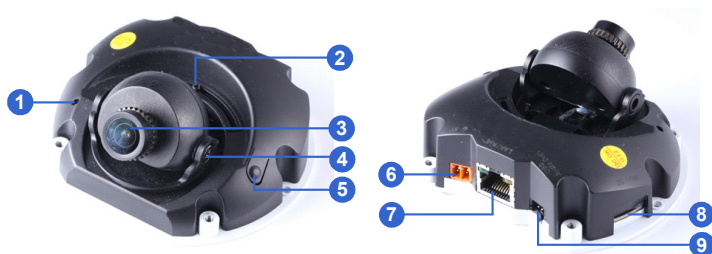

Figure 6-2
10. Insert a Micro SD card (SD/SDHC, version 2.0 only, Class 10) into the memory card slot (No. 11, Figure 6-2).